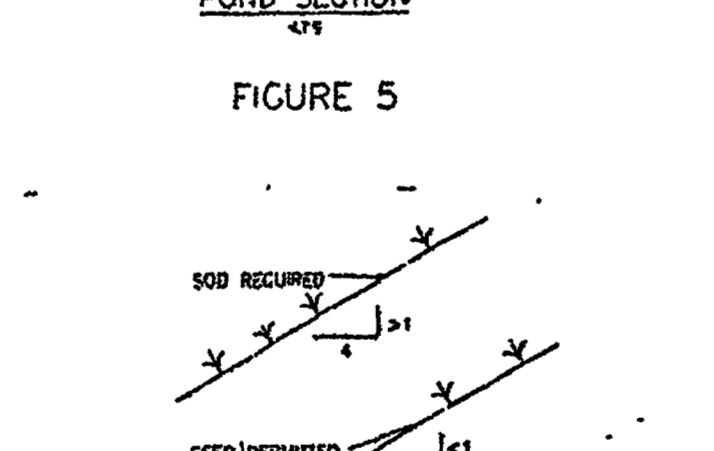

FIGURE 8
- b. Stormwater inlets shall be protected during construction as shown in Figures 8 and 9. Protection measures shall be employed as soon as practical during the various stages of inlet construction. Silt barriers shall remain in place until sodding ground which is complete.